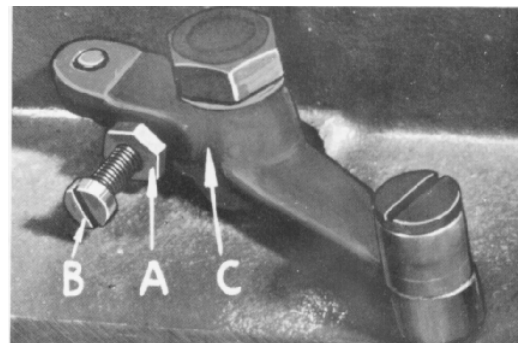
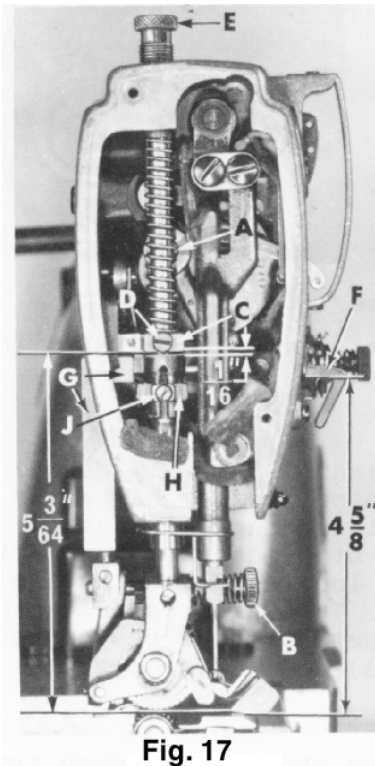

Fig. 16
Fig. 17
The presser spring (A, Fig. 17) should exert only enough pressure on the feed rollers to make the work feed uniformly. To increase the pressure on the preser foot, turn presser spring regulator (B, Fig. 17) in a clockwise direction.
When locating presser bar guide (C, Fig. 17) presser foot must rest directly against throat plate. Proper setting of guide is  $5 \frac{3}{64}$  inches between underside of presser bar guide and the top of throat plate (Fig. 17). To obtain this setting, remove pressure from the presser spring (A) and loosen set screw (D). Tap on presser foot to insure it is down against throat plate. Set guide to the  $5 \frac{3}{64}$  inch dimension, center foot by turning it so needle enters the middle of its slot and retighten screw (D). Apply pressure to top
Set needle thread pull-up bracket (F) so that underside of wire is  $4 \frac{5}{8}$  inches above throat plate (Fig. 17).
Presser bar connection (G, Fig. 17) should be set about  $\frac{1}{16}$  inch below presser bar guide (C). Accomplish this by loosening lock nut (A, Fig. 16), and relocating stop screw (B) on lifter lever bell crank (C), located at the back of machine, under bed plate. Turning stop screw to right or left, properly sets presser bar connection. Tighten lock nut (A) to lock stop screw.
Tension release should be set so as not release when sewing over seams or when presser foot is raised. Adjustment of tension release cam (H, Fig. 17) and in and out position of tension assembly are required for proper operation.
The tension release cam (H, Fig. 17) should now be positioned by loosening set screw (J) and then rising or lowering cam (H) to suit the sewing conditions. The average release point is between 1/4 and 5/16 inch of presser foot lift above the throat plate. Tighten tension release cam set screw securely.